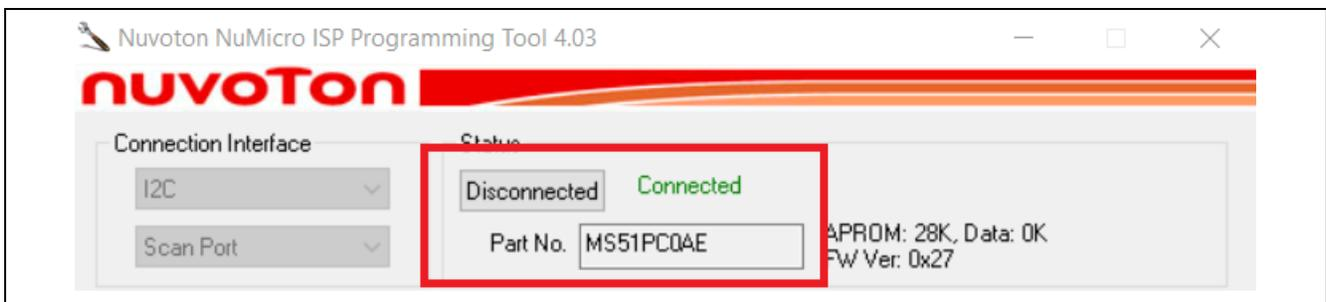

Figure 4-13 Nu-Link2-Pro Connected with a Target Chip Detected
- (3) After the **Connect** button is clicked, the ISP Tool will be connected with the Nu-Link2-Pro, and the **Connection Interface** will be detected. Figure 4-13 shows that the ISP Tool has been connected with the Nu-Link2-Pro through the I²C interface and a target chip is detected. Meanwhile, users can start programming the target chip.